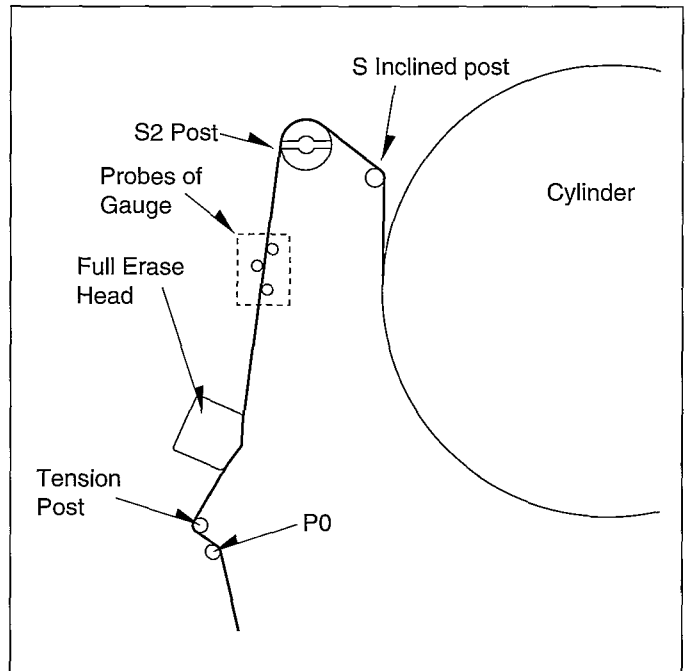

Fig. M2
- (1) Playback the cassette tape from the beginning and wait until the tape movement get the stabilization. (for approx. 10–20 seconds)
- (2) Insert the Back Tension Meter into the path of a tape, and measure the back tension to be within specification as shown in Fig. M2.